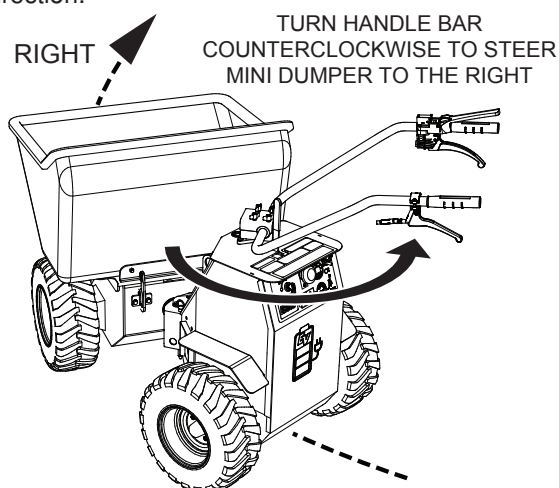

Figure 11. Steering the Mini Dumper (CCW-Right)
2. To turn right (Figure 11) when traveling in the forward direction, turn the handle bar in the counterclockwise direction.